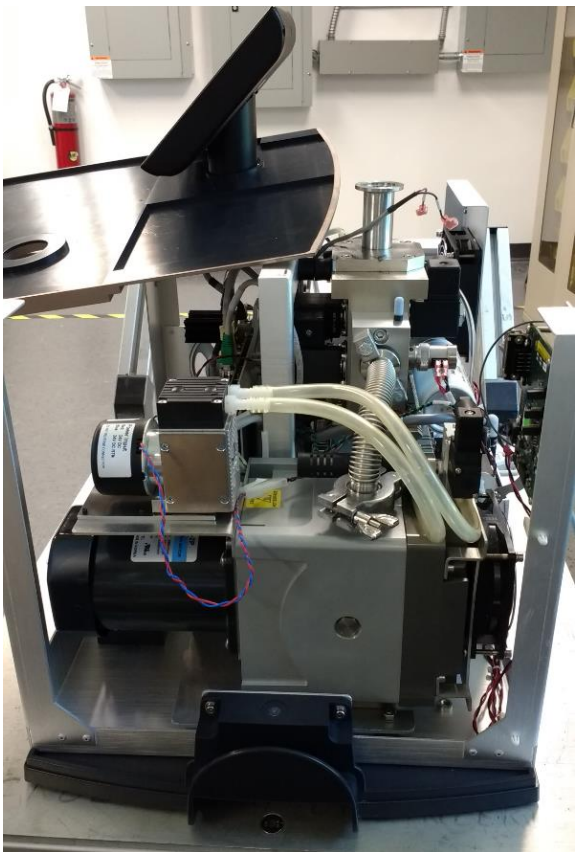

Figure 9: Covers
3. Using a slotted screw driver, remove all four covers and rotate the lid about the screen, without removing the screen itself (Figure 9: Covers).